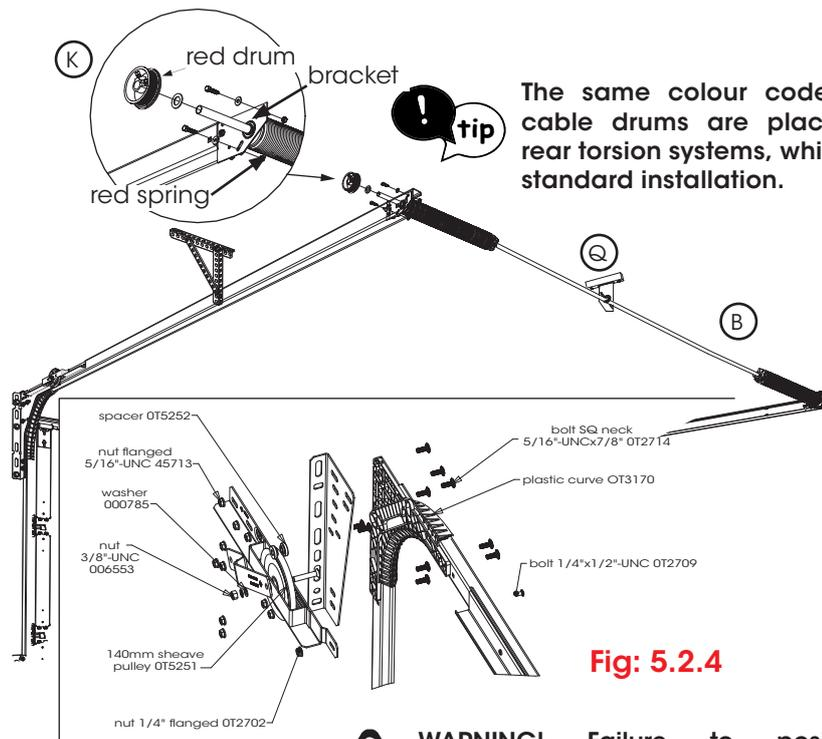

Fig: 5.2.4
Assemble the track, with cable pulley as shown in Figure 5.2.4. The curve must align and butt up against the vertical track snugly.
- h) Connect the side bearing brackets to the end of the horizontal tracks using $\frac{3}{8}$ " and $1\frac{1}{2}$ " hexagonal head bolts and $\frac{3}{8}$ " washers and nuts. Fig 5.2.4.
- i) Slide the torsion bar (B) of the torsion assembly through one side bearing bracket and then the other.
- k) Secure the spring anchor bracket (Q) firmly into a solid foundation directly or through the use of a steel angle to timber beams onto the ceiling, ensuring the 'cut corner' is pointing in the direction of the opened door.